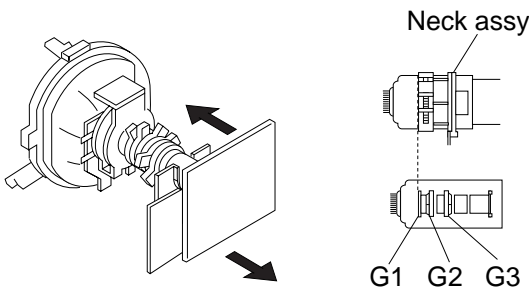

Fig. 3-1
2. Position neck assy as shown in Figure 3-1.
(See Figures 3-1 through 3-3.)
5. Move the deflection yoke forward and adjust so that entire screen is green. (See Figure 3-1.)